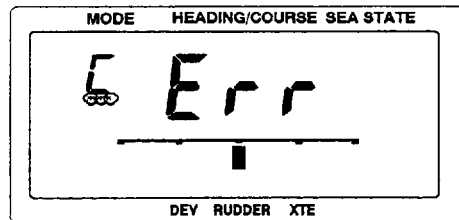

Fig. 7-7 Indication when memory could not be cleared
- If the memory could not be cleared the display looks like Fig. 7-7. In this case the EEPROM may be defective.